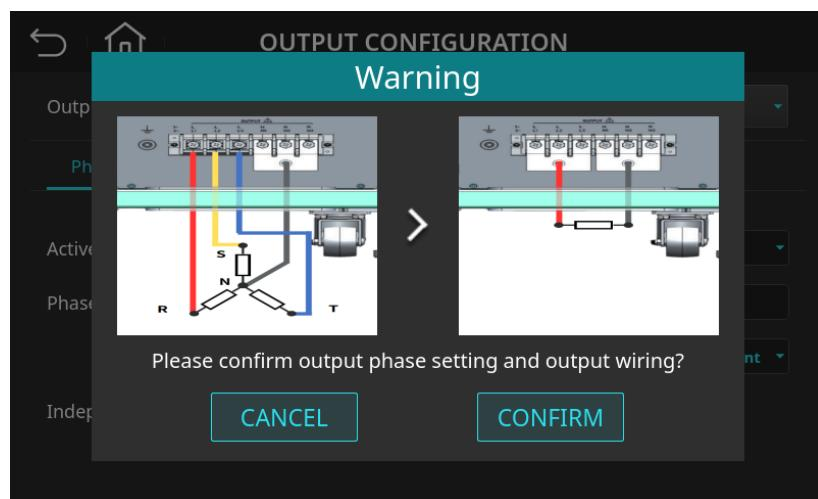

Figure 4-23: Phase Mode Switching Warning Page (Switching from Three Phase to Single Phase)
3. After confirming the output wiring is in single-phase mode, press the “CONFIRM” button, as shown in Figure 4-23.